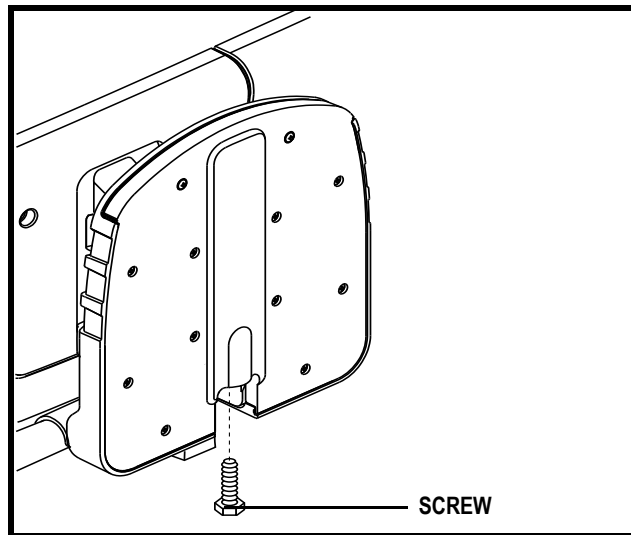

Figure 22. Underside of Foot Platform
1. Flip up the foot platform and locate the screw. See **figure 22**.